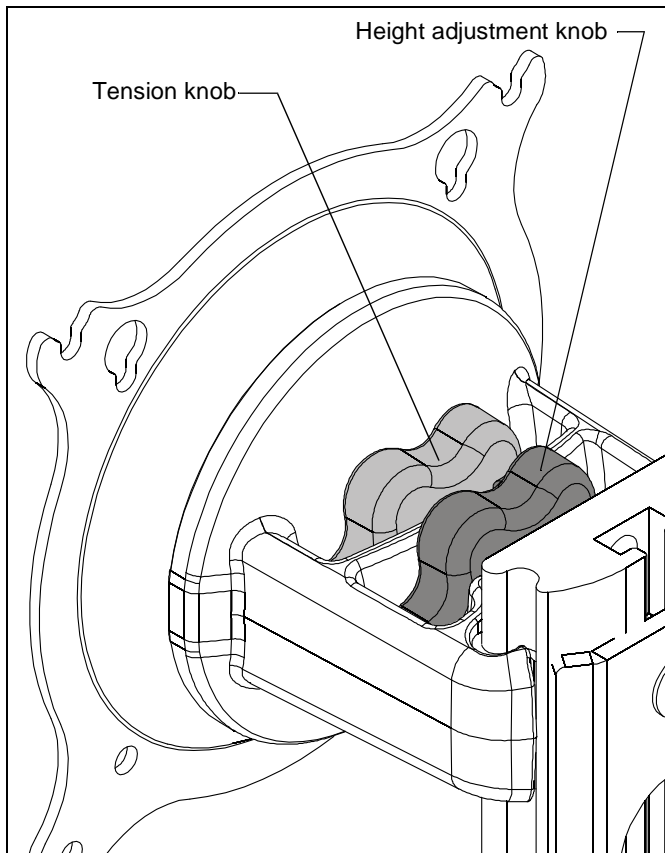

Figure 13
1. Using your fingers, slightly loosen height adjustment knob. (See Figure 13)
3. Using your fingers, tighten height adjustment knob. (See Figure 13)
1. Using your fingers, slightly loosen tension knob. (See Figure 13)